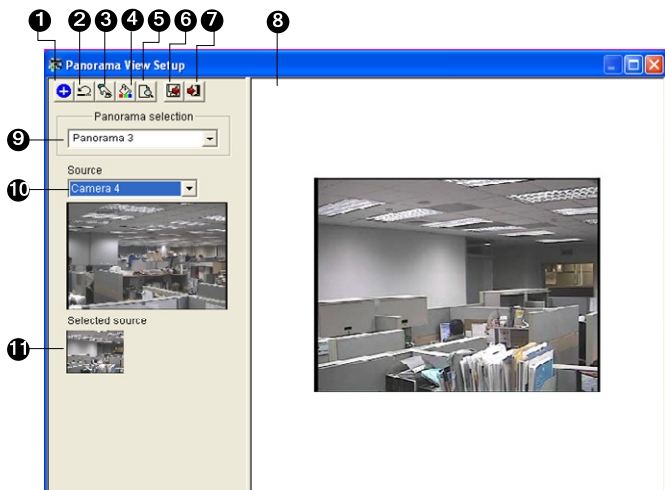

Figure 4-57
1. Select one panorama set (No. 9, Figure 4-57) from the drop-down list. If you want to rename the selected panorama set, type the name in the field.
2. Select one camera from the Source drop-down list (No. 10, Figure 4-57) and then click **Manual Setting** (No.3, Figure 4-57). This dialog box appears.
8. When you finish stitching images, click the **Save Before Exit** button (No.6, Figure 4-57) to save the created panorama view before exiting the Panorama View Setup dialog box.